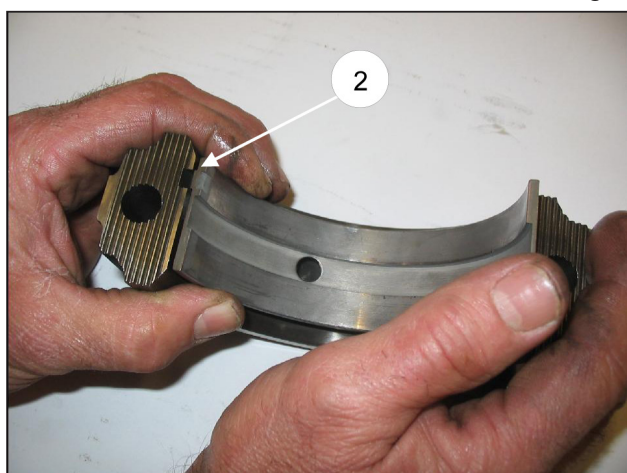

Fig. 6/a
If the piston guide rods have been disassembled, before reassembling them check the correct positioning of the sealing O-rings (pos. ①, Fig. 6/b), if necessary replace them. Tighten the piston guide rods through the respective two M6 screws to the tightening torque indicated in the table of page 30.